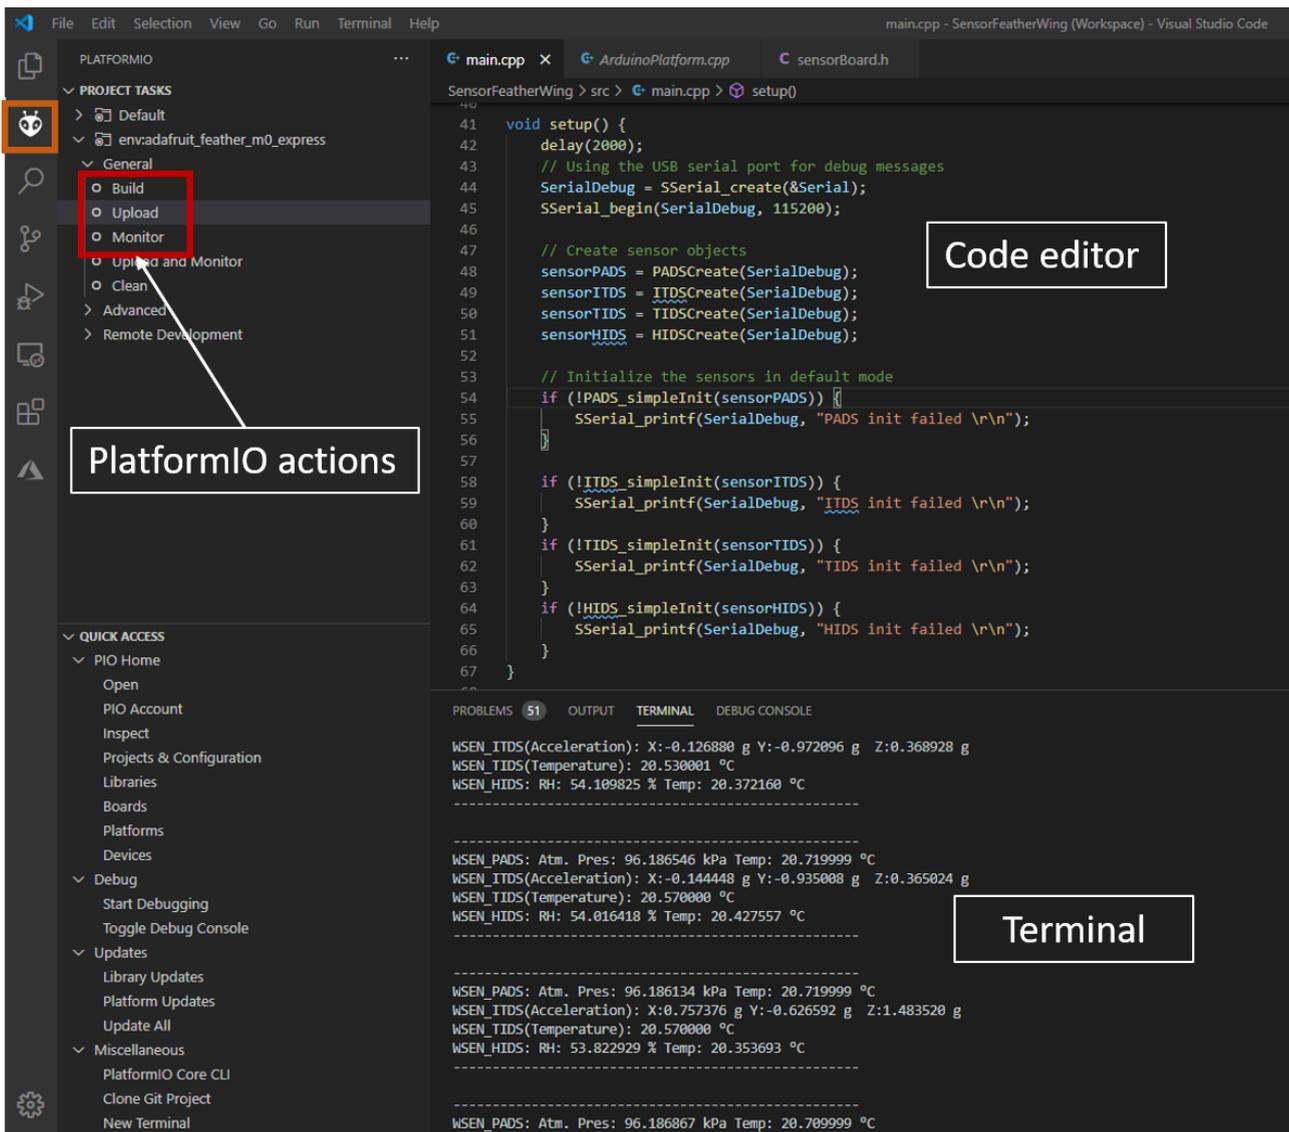

Figure 10: Running the quick start example
- Build and upload the code from the PlatformIO tab as shown in the Figure 10
- After successful upload, click on Monitor to view the debug logs in the serial terminal (See Figure 10).